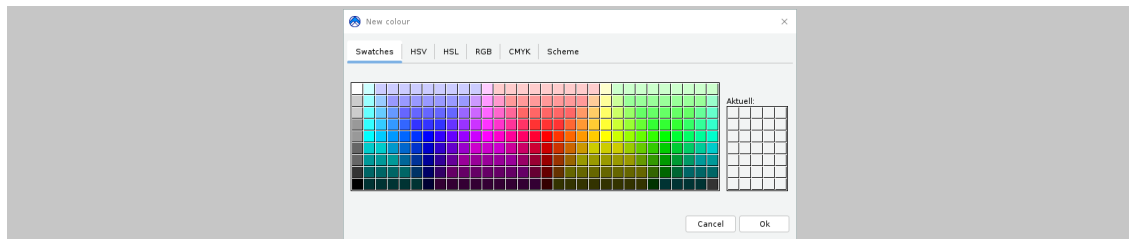

Figure 19: The New colour window
3. In the opened window (the New colour window, see Figure 19), select the desired colour.